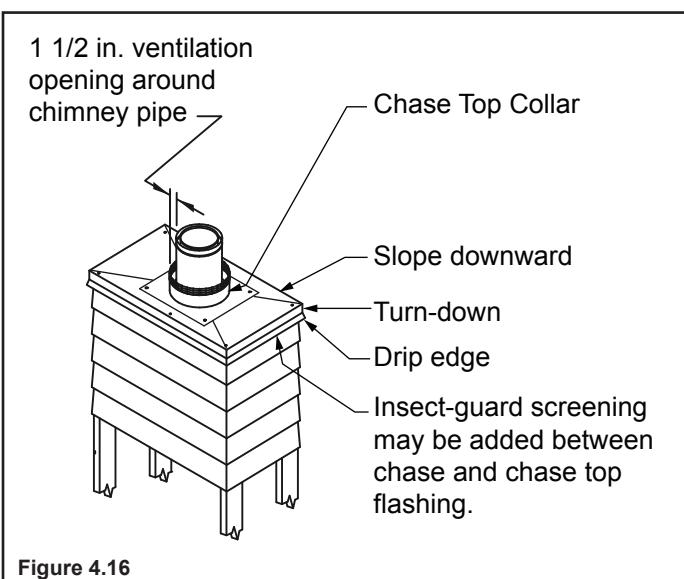

Figure 4.16
- When installed, the bottom of the chimney cap must be at least 6 in. above the flashing (Figure 4.16).